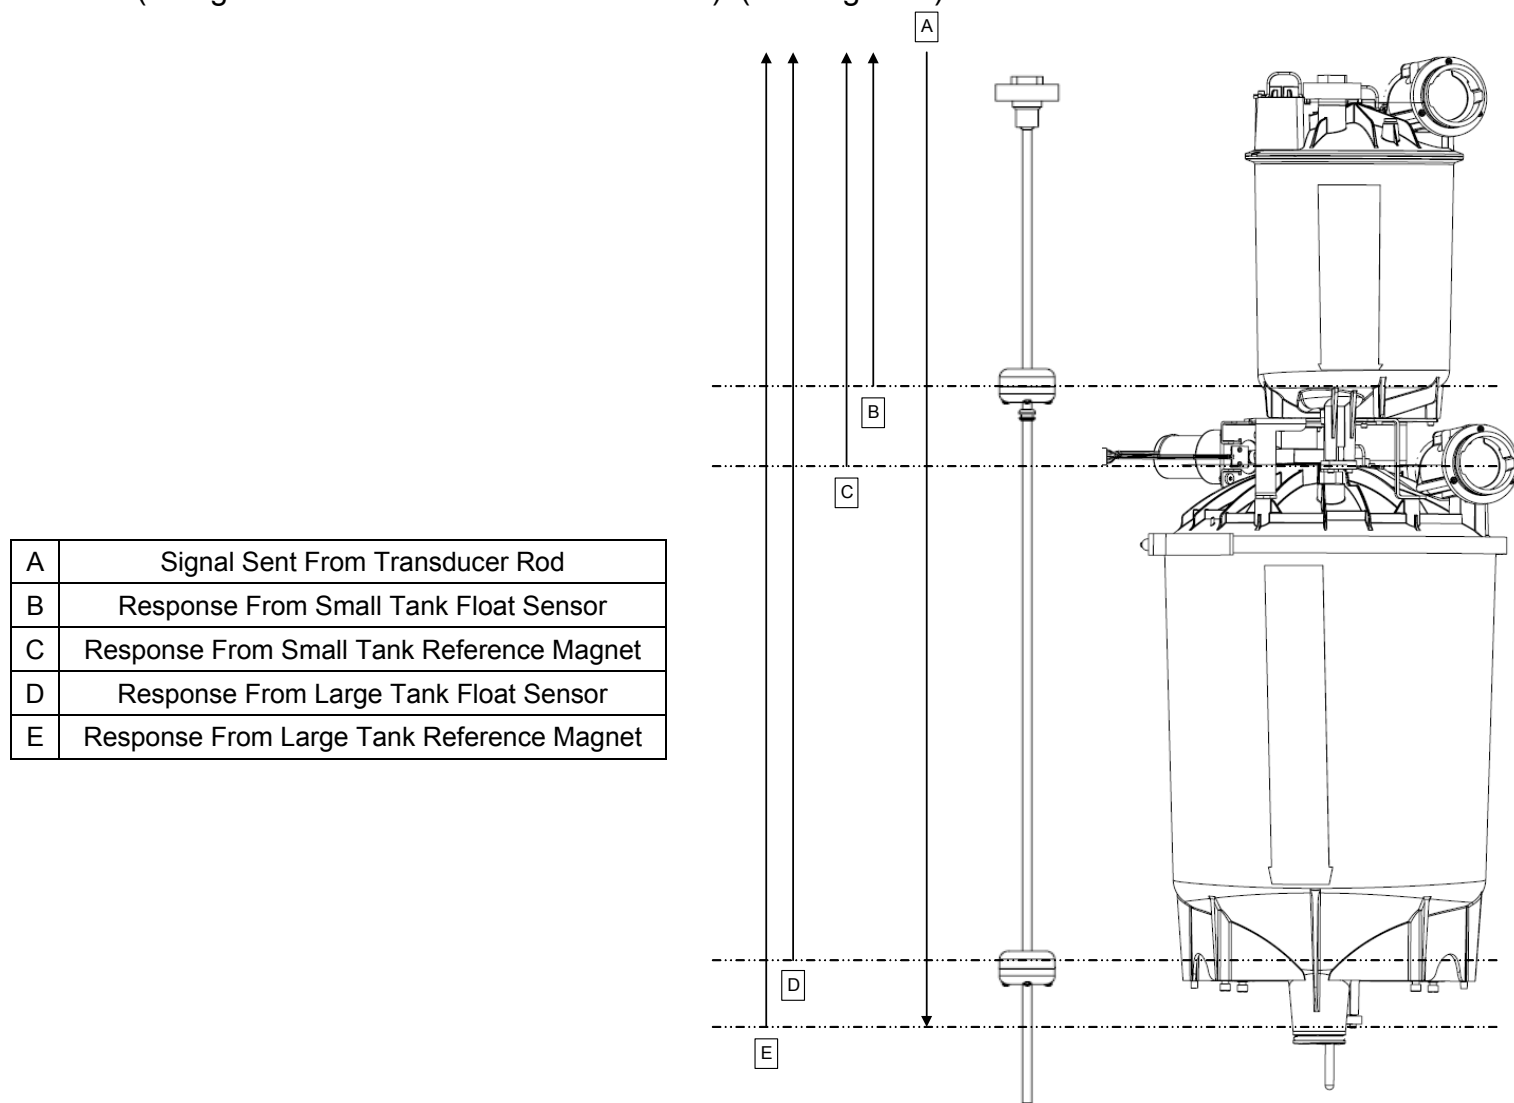

Figure 1. Transducer Rod and Magnets
To determine the position of each magnet, the sensor transmits a signal starting at the top of the transducer rod (A). The signal is sent at a known speed, so the distance to the magnet can be determined by timing the response from each magnet. (Using the formula $\text{distance} = \text{rate} \times \text{time}$). (See Figure 1)